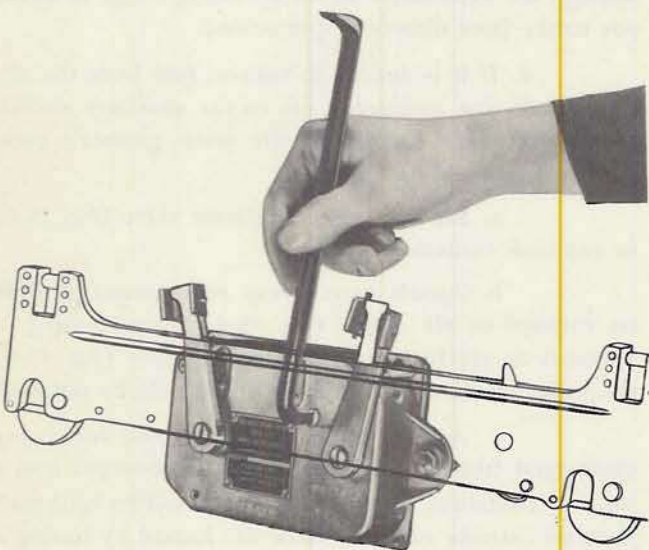

Figure 51—First Bomb Bay Release
(1) Bombs may be released individually "armed" by turning screw head release control with an offset screwdriver inserted between bomb shackle and bomb hanger (fig. 51). (If electrical solenoid fusing control for nose and/or tail of bomb is provided, they may be released either armed or unarmed.)